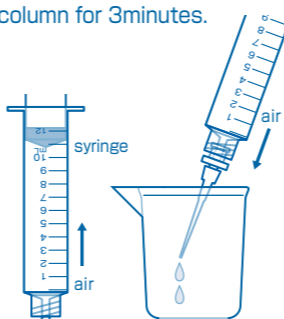

Fig.3
- Screw out the 10mL-syringe from the connector. Draw air into the 10mL-syringe, and then eject the liquid left in the column. (Fig.3)
- Screw out the 2.5mL-syringe from the connector. Draw air into the 2.5mL-syringe, and then eject the liquid left in the column. (Fig.3)